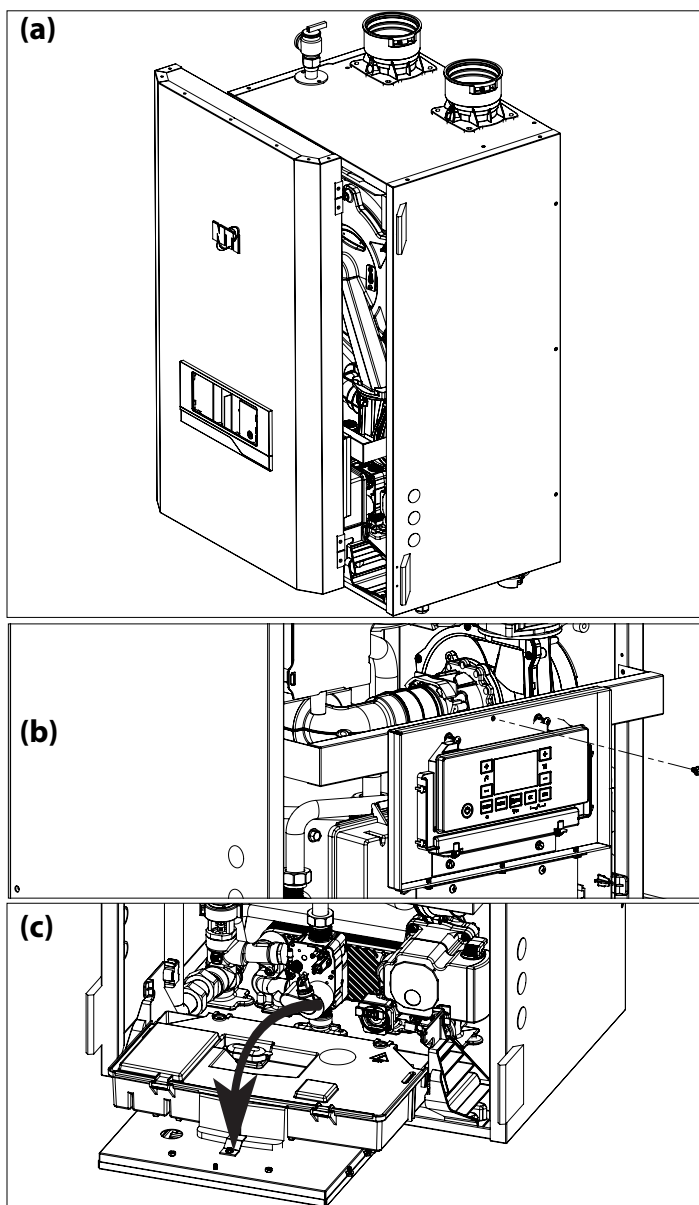

Figure 80 - Removing the Cover and Control Panel Housing
See Figure 80 to access the interior of the boiler:
- Remove the front panel as shown in Figure 80.